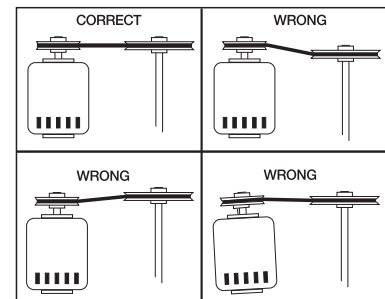

Figure 4
7. If adjustments are made, it is very important to check the pulleys for proper alignment. Misaligned pulleys lead to excessive belt wear vibration, noise and power loss (see Figure 4).